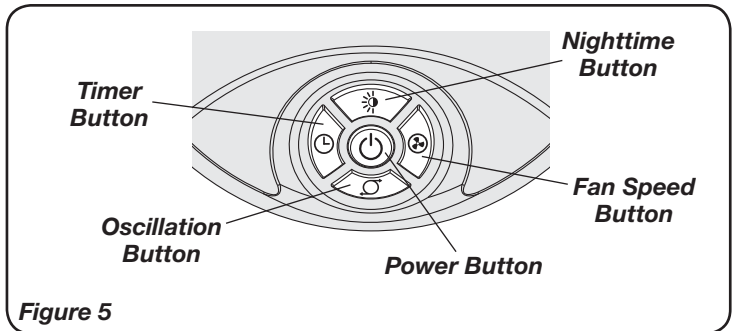
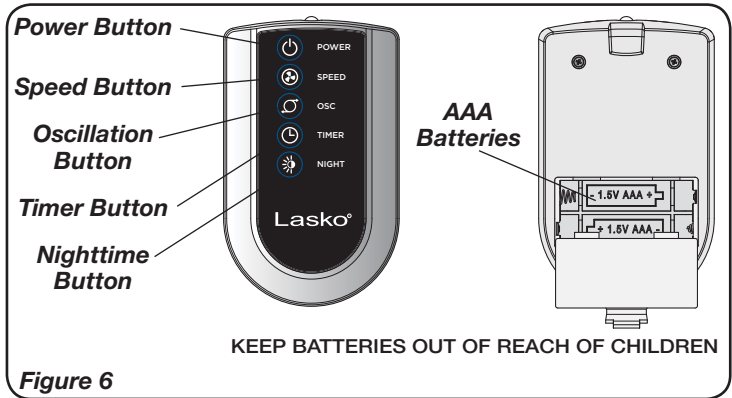

Figure 5
Figure 6
This Fan may be operated by the Manual Controls located on front of the unit (*Figure 5*) or by the Remote Control (*Figure 6*).
1. Install two “AAA” batteries (not included) as shown in *Figure 6*.